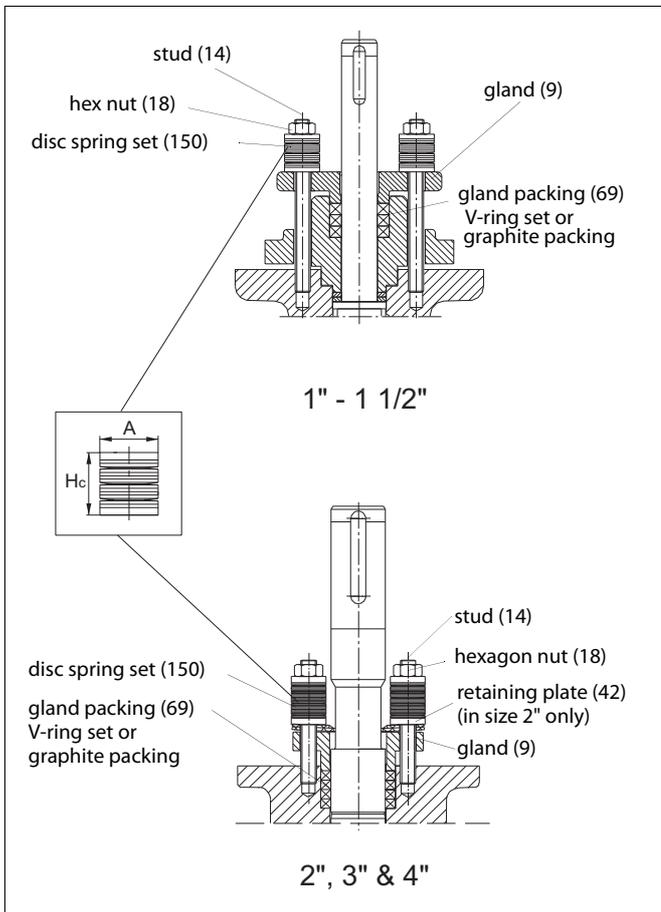

Fig. 14 Gland packing
- Remove the key (10).
- Remove the hexagon nuts (18), disc spring sets (150), one stud (14) and retainer plates (42, size 2" only) and gland (9).
- Remove the packing rings (69) from around the shaft using a knife or other pointed instrument. Make sure that there is no damage to the shaft or the counterbore. Please note that the thrust ring (67) may come off as you remove the packing. It should be placed back in its position before installing the new packing.
- Place the new packing rings (69) over the shaft (5). The gland (9) may be used for pushing the rings into the counterbore. Do not damage packing rings in the shaft keyway. See Fig. 14. Screw down the removed stud.
- Remove the gland nuts and one stud, mount the retainer plates (42, size 2" only) and the removed stud and place the disc spring sets (150) on the gland studs. Tighten the nuts (18) so that the disc springs are compressed to the height  $H_c$ , see Table 1. Lock the nuts with locking compound e.g. Loctite 221. See Fig. 14.